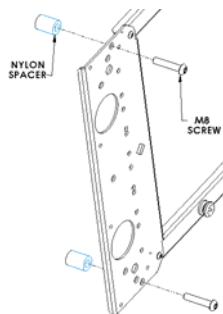
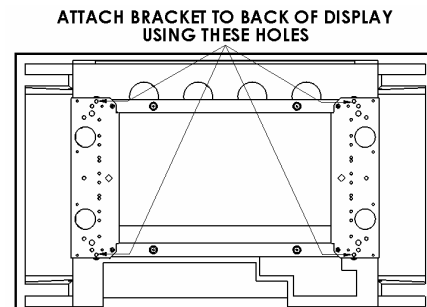

Figure 6
Figure 7
3. Place Nylon spacers over mounting holes on back of screen. Attach mounting brackets to display using M8 screws (see Figure 6 & Figure 7). Use correct length of screws depending on thread depth of screen.